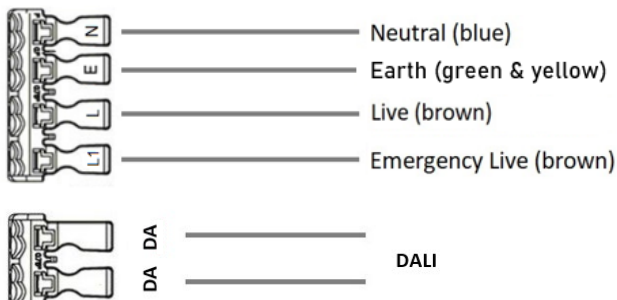

Fig. 3
- Ensuring correct polarity is observed, carefully wire as shown in Fig. 3. The earth terminal is non-functional and only provided for convenience. Two cables can be inserted into the push-fit terminal block in order to achieve loop-in/loop-out wiring